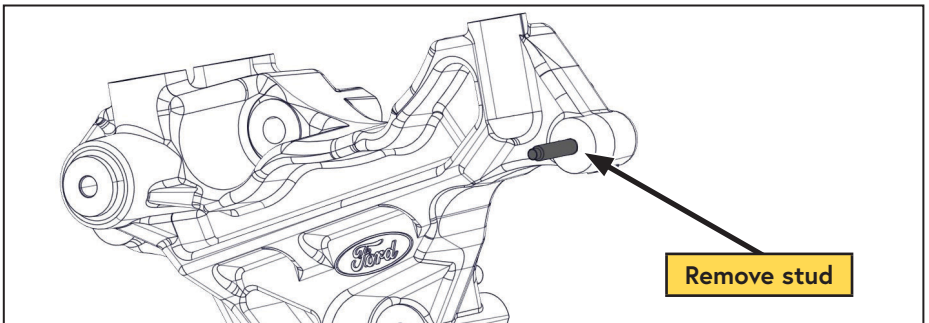

Figure 10 — Remove stud
- Dual alternator only:** Remove the stud from the bracket as it will be reused (Figure 10).